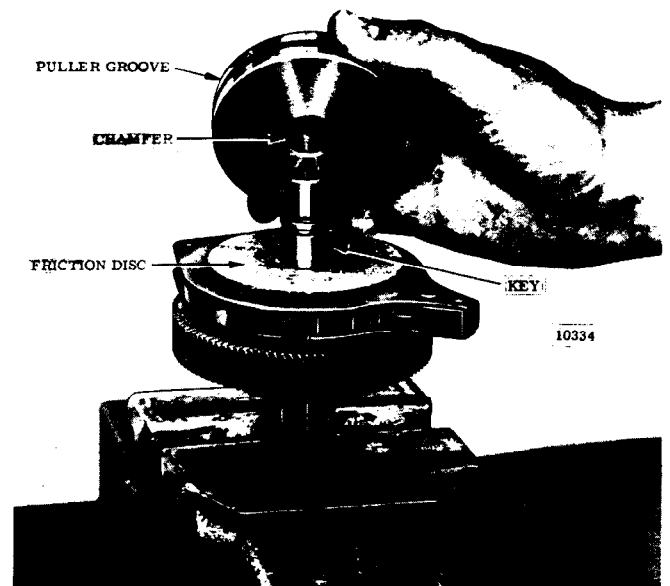

Figure 5-7. View showing Load brake Flange removed.
(2) Using a puller tool, remove brake flange from shaft. A groove is provided around outer diameter for this purpose. See Figure 5-7. Remove key from shaft and lift off 2 friction discs, and the pawl and ratchet assembly (Fig. 5-8).
(3) When installing brake flange, position it with chamfer facing friction disc (Fig. 5-7).